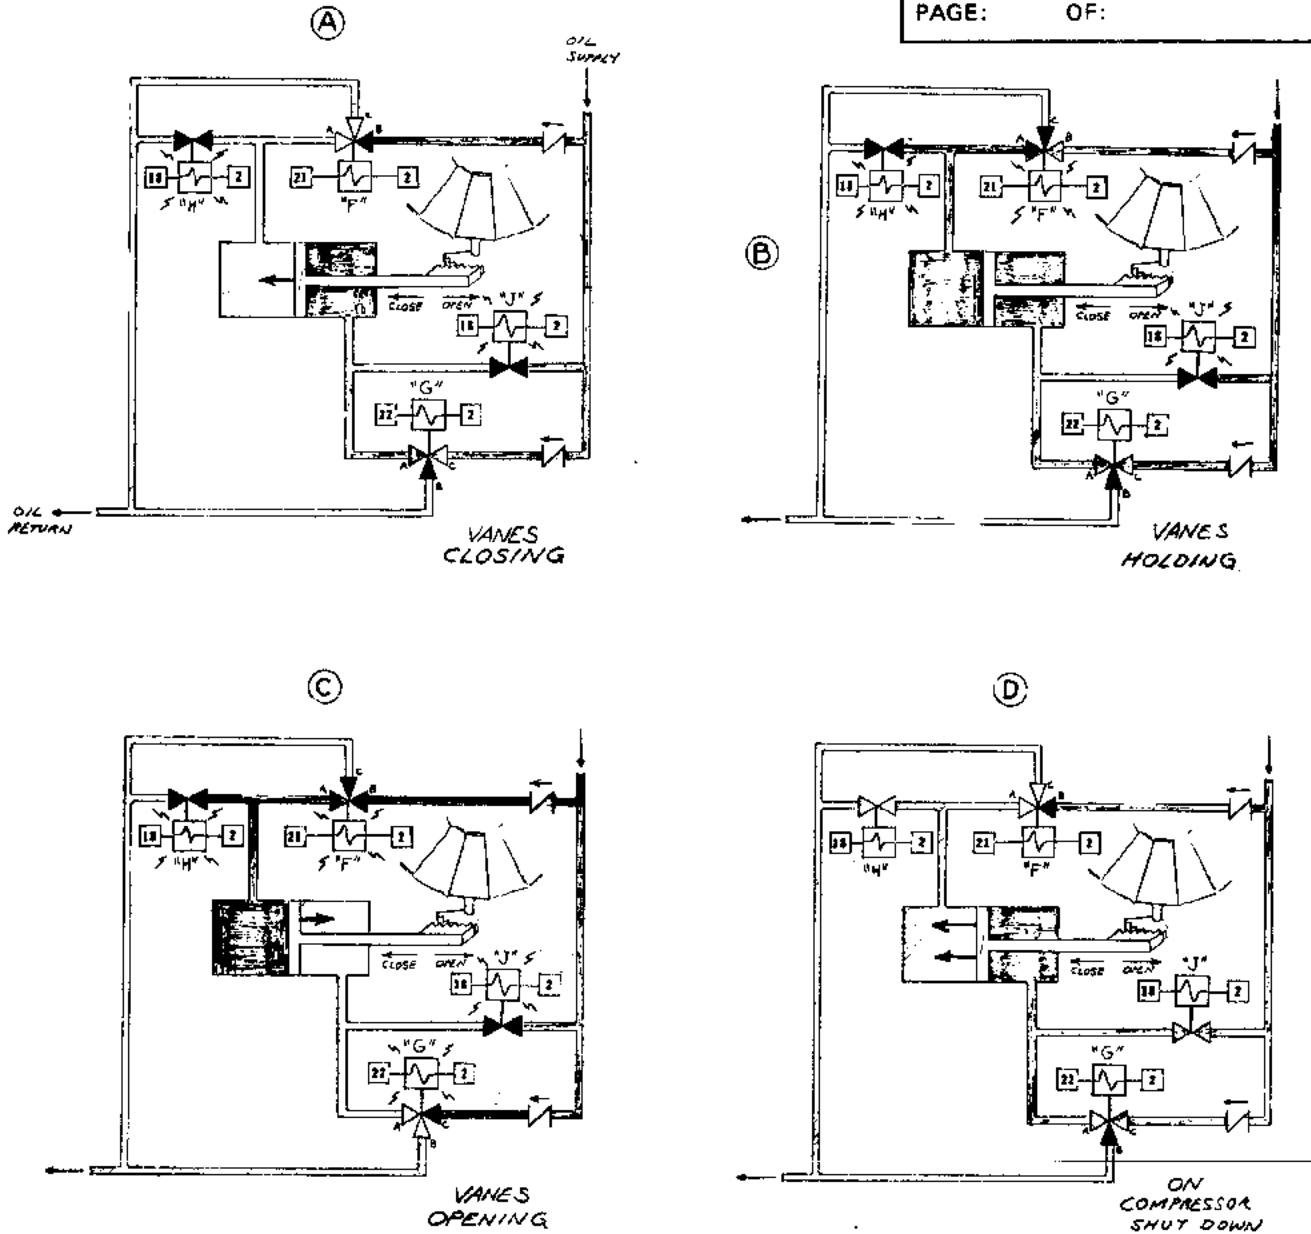

FIGURE 1
**PROCEDURE:** Normal operation of the 19C/17CA hydraulic vane control motor is shown in Figure 1, Page 4. If water temperature is low (Figure 1-A), neither the Form "F" nor the Form "G" solenoid energizes. Oil pressure is exerted on the right side\* of the piston, as shown by the dark areas in the figure, causing the vanes to close. If water temperature is correct (Figure 1-B), solenoid "F" energizes, enabling pressure to be felt on both sides of the piston, holding the vanes in a set position. If water temperature is high (Figure 1-C), both "F" and "G" solenoids energize, allowing pressure to be felt on the left side of the piston and providing a drain from the right side, thereby opening the vanes.
On R-114 machines there are additional solenoids ("H" and "J") provided to quickly close the vanes when the compressor is shut down as shown in Figure 1-D.
3. LEAKY CHECK VALVE - If the check valve in the oil supply line to the Form "F" valve leaks, the vanes will tend to close instead of remaining stationary. Normally, in the hold position, the oil pressure is the same on both sides of the piston as shown in Figure 1-B. However, the left side of the piston also has the pressure exerted by the gas across the prewhirl vanes. In the hold position, therefore, there is always a higher pressure in the left side of the piston than in the right side. If the check valve leaks, the oil will flow from the left side of the piston through the Form "F" solenoid valve, through the leaky check valve, cross over and enter the other check valve at the entrance to the Form "G" solenoid valve flowing in the free flow direction. It will then pass through the Form "G" solenoid valve and over into the right side of the piston. In this way the oil will be transferred from the left side of the piston to the right side of the piston and the piston will move to the closed position.
NOTE: "H and "J" Valves are only present in R-114 machines. They provide for quick closing of the vanes on compressor shutdowns as shown in Figure 1-D, above.